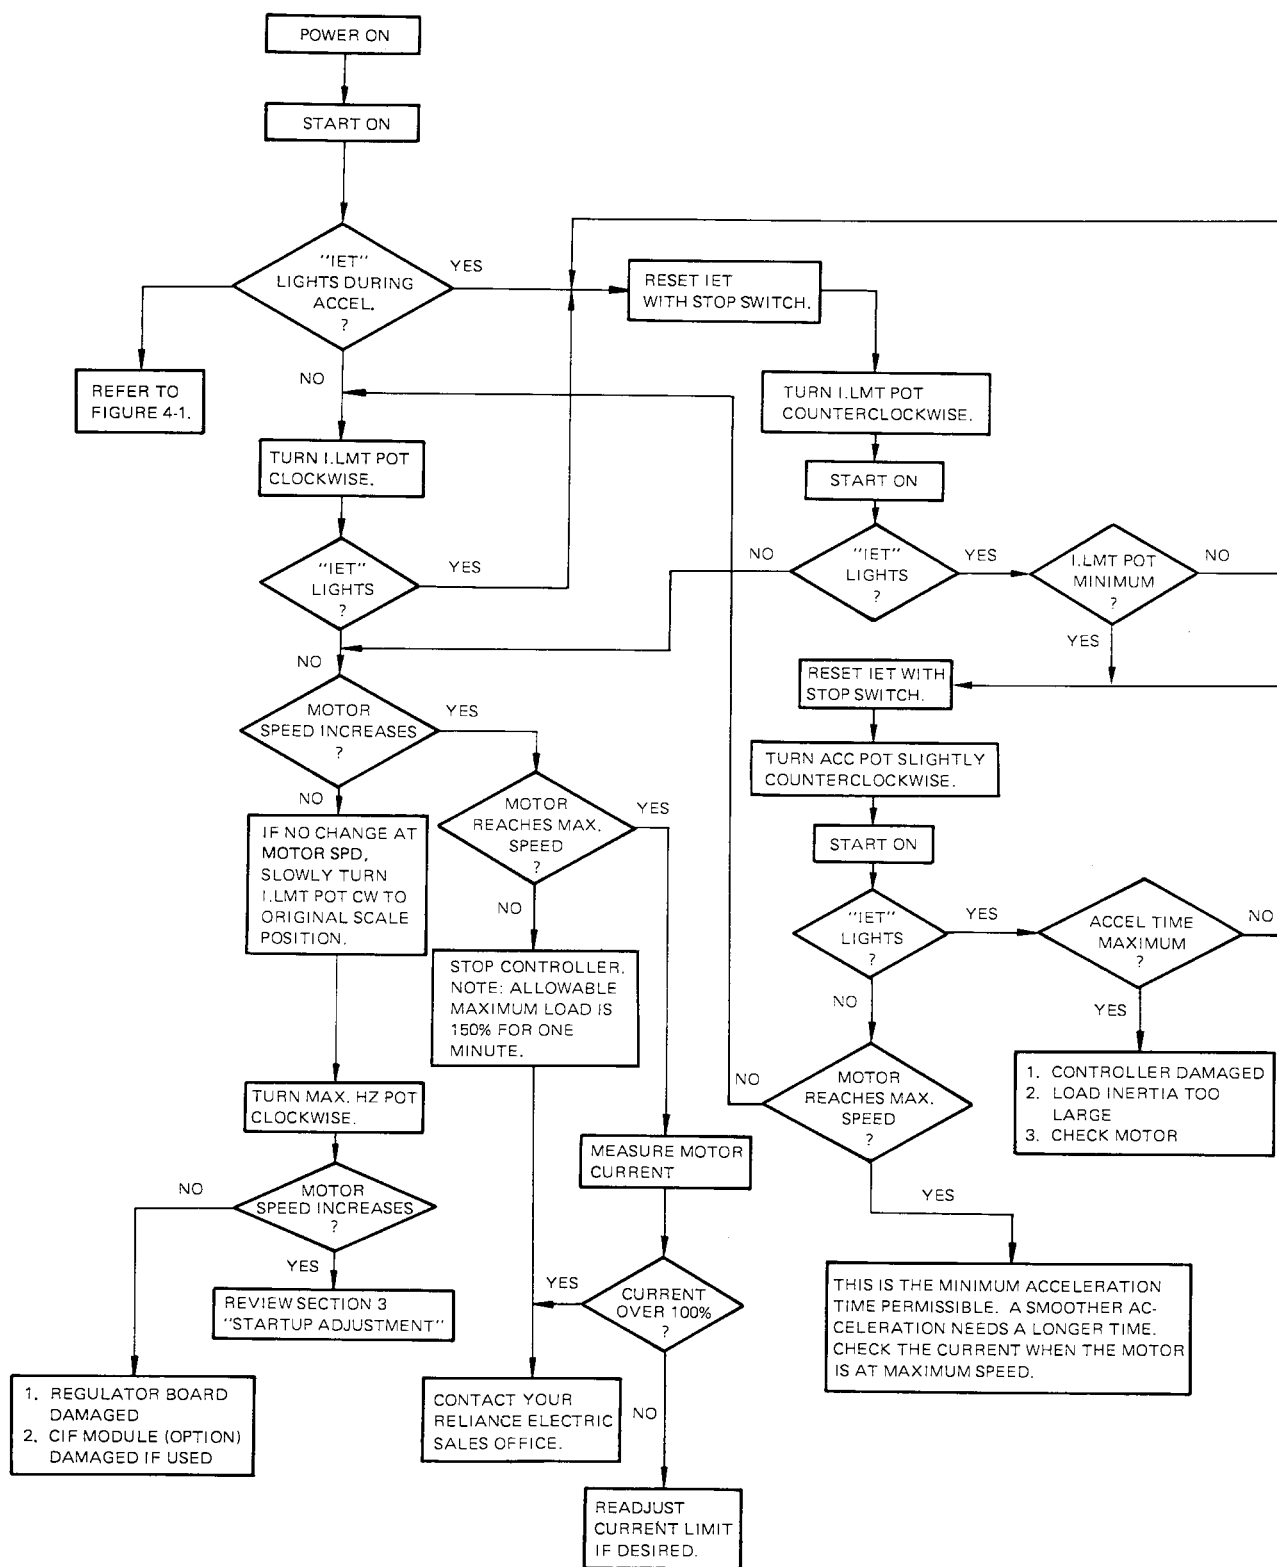

Figure 4-2. Motor will not reach maximum speed.
2. Motor will not reach maximum speed (**Figure 4-2**), which includes the following symptoms: